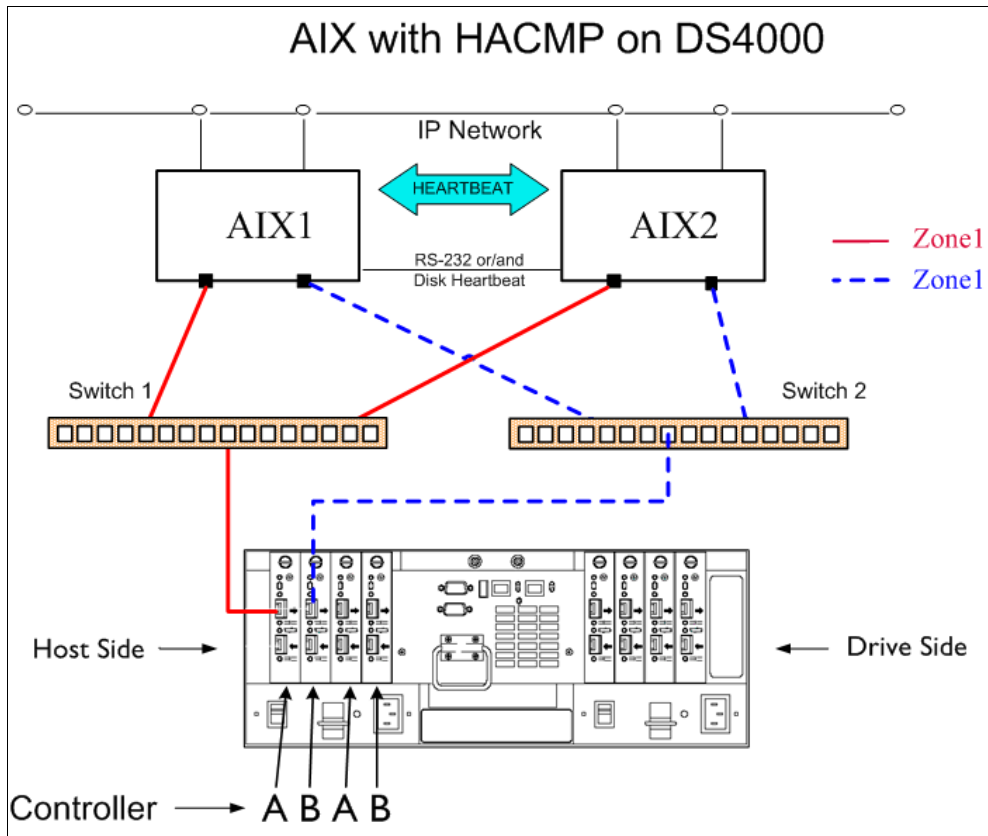

Figure 7-24 HACMP cluster and DS4000
The primary goal of an HACMP environment is to eliminate single points of failure. Figure 7-24 below contains a diagram of a two-node HACMP cluster (this is not a limitation; you can have more nodes) attached to a DS4000 Storage Server through a fully redundant Storage Area Network. This type of configuration eliminates a Fibre Channel (FC) adapter, switch, or cable from being a single point of failure (HACMP itself protects against a node failure).